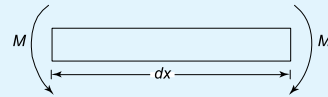

Figure 10.9
1. A cantilever of solid circular cross-section is subjected to a concentrated load of 30 N at its free end, as shown in Figure 10.9. If the diameter of the cantilever is 10 mm, determine the maximum stress in the cantilever.
2. If the cantilever of Figure 10.9 were replaced with a tube of the same external diameter, but of wall thickness 2 mm, what would be the maximum stress due to the load shown in Figure 10.9? [421 MPa]